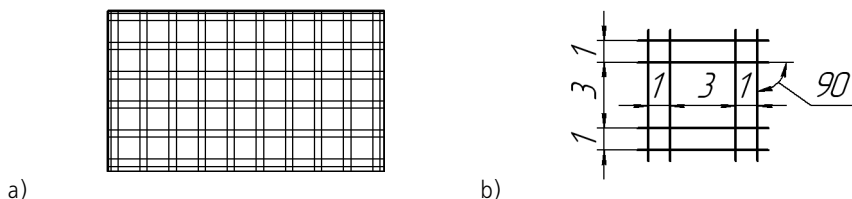

Fig. 8.4. Hatch style Porcelain:
**3.1.1** Create a **Porcelain** hatch style (Fig. 8.4). Hatch line style — Thin.
11. Look at the hatch created. Make sure that a hatch pattern is the same as that shown in Fig. 8.4, and the used line style is *Thin*.